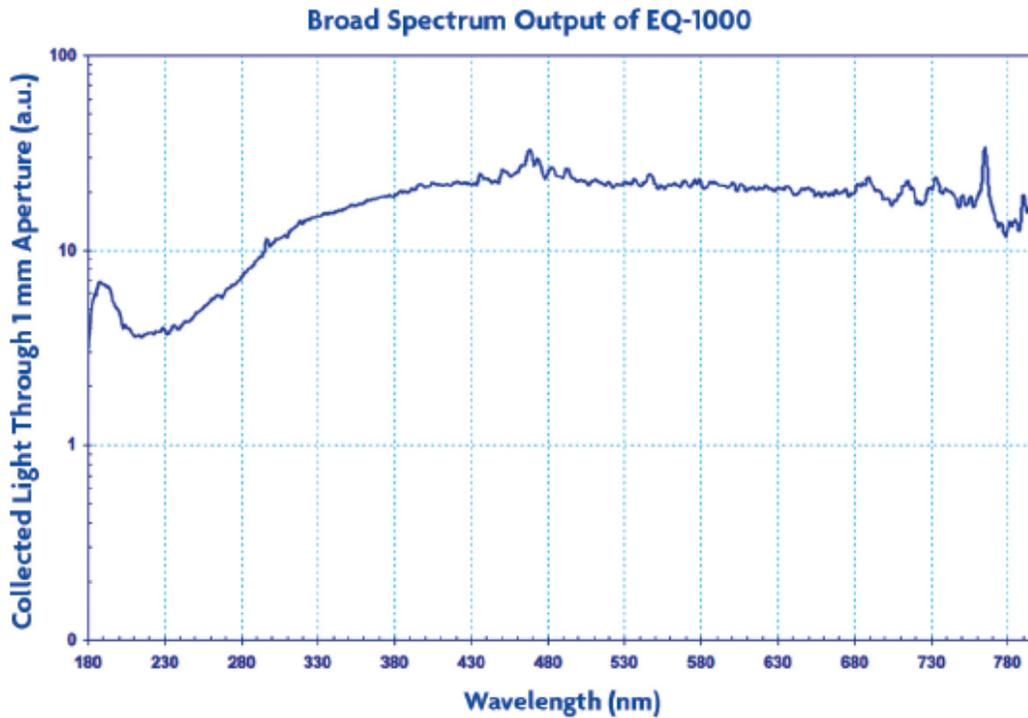

Figure 3: Typical output spectrum
- Typical output spectrum: see Figure 3.